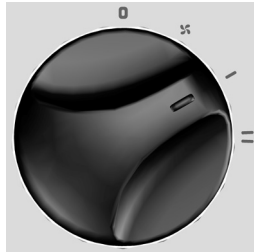

fig. 4
- To activate MINIMUM POWER function, turn knob "C" (fig. 1) so that reference mark "I" is aligned with the "I" symbol on the control panel (fig. 4).